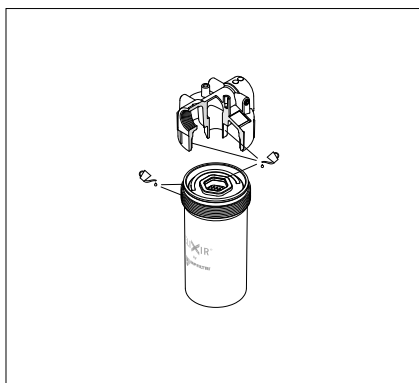

fig. 5
- (Fig. 5) Lubricate with the operating fluid the filter housing tap, the filter element and bowl seals, and the threads of head cavity and bowl.